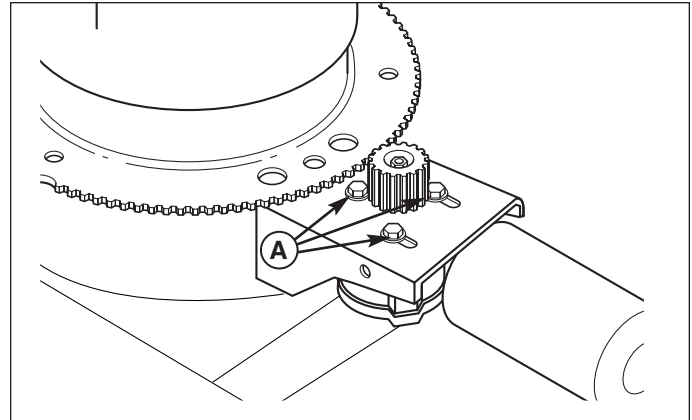

Figure 6. Chute Rotator Motor Adjustment (Left Side Mount)
1. Remove the cover and loosen the three screws (A, Figure 6 or 7) securing the electric spout rotator motor.
2. Adjust the motor so that it meshes with the discharge chute ring gear and tighten the adjustment screws (A).